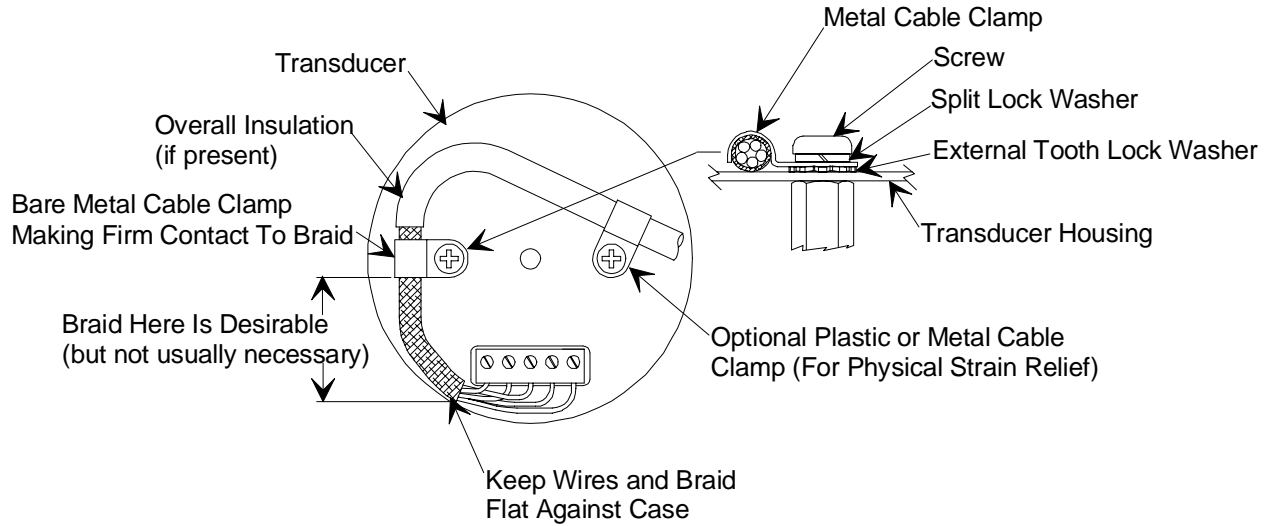

Figure 1: Preferred Method To Connect a Shielded Cable
4. For shielded cables with flying leads at one or both ends; it is important at each such end, to ground the shield *before* the wires exit. Make this ground with absolute minimum length. Refer to Figures 1 and 2, page 12. (A ¼ inch piece of #22 wire may be undesirably long since it has approximately 5 nH of inductance, equivalent to 31 ohms at 1000 MHz). After picking up the braid's ground, keep wires and braid flat against the case. With very few exceptions, grounded metal covers are not required over terminal strips. If one is required, it will be stated in the Declaration of Conformity or in the instruction manual.